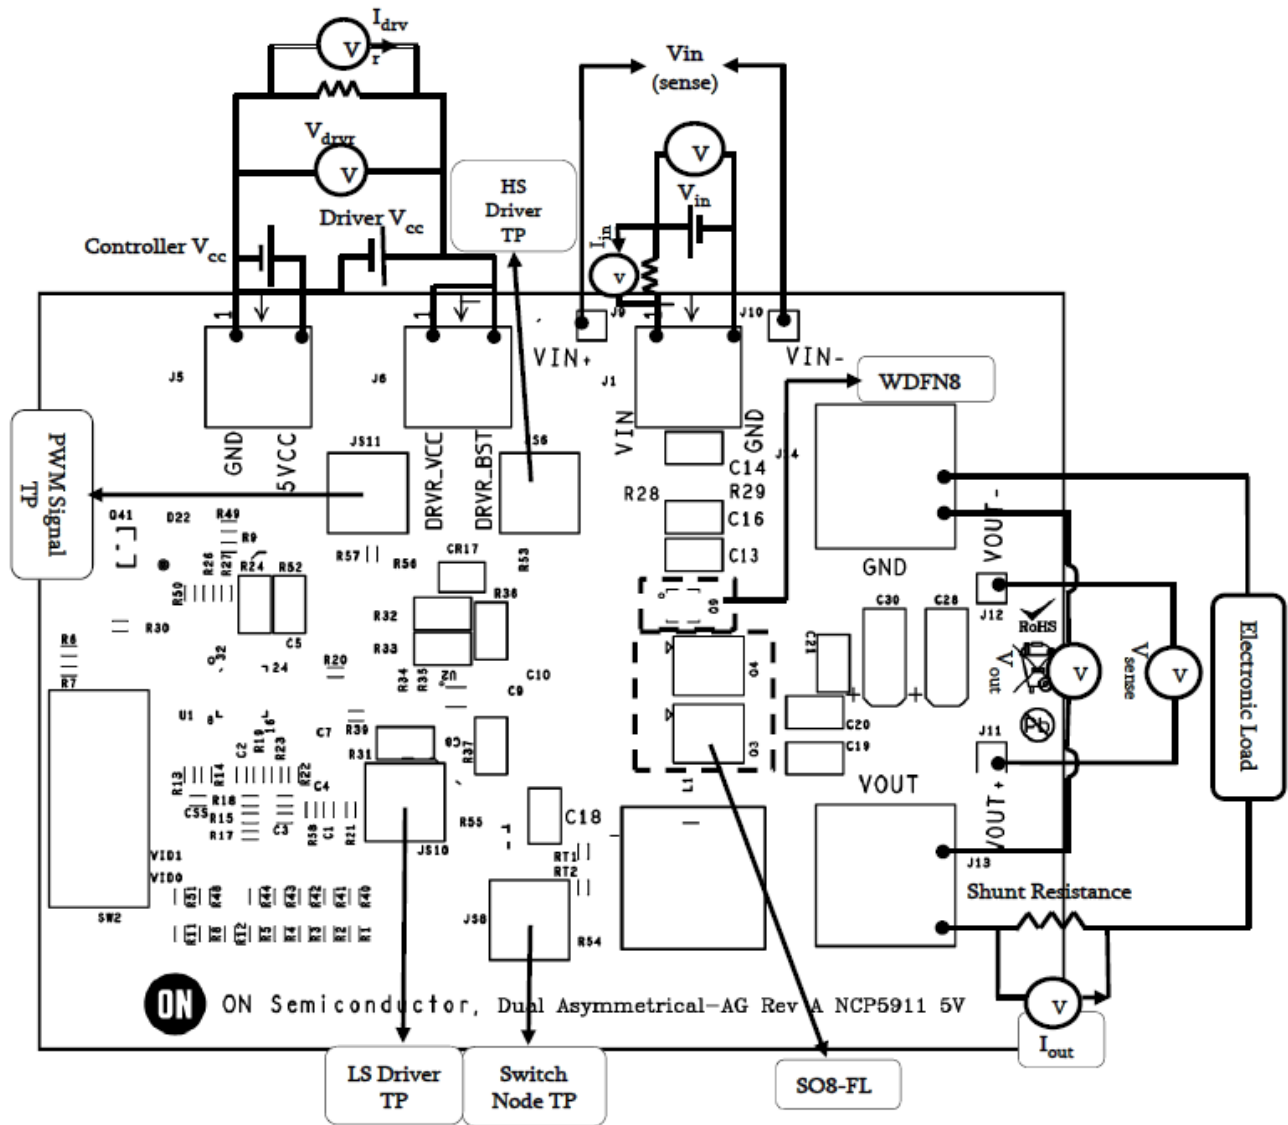

Figure 3: Schematic of the Test Setup
In the DUALASYMA5VGEVB Evaluation Board, the voltages that are to be measured are V_{in} , V_{out} and V_{drv} . Similarly, the currents that are to be measured are I_{in} , I_{out} and I_{drv} . The set up for measuring these voltages and currents, and the meters required are shown in *Figure 3*. The currents are measured across the shunt resistances that are connected across each of the terminals of input, output and driver voltages as shown in *Figure 3*. For example, the output current is measured as, $I_{out} = V_{out} / R_{sh}$. Similarly the input and driver current can also be measured. The connecting wires from the output terminal to the electronic load should be thicker in order to avoid losses and to measure the exact voltage at the end of the terminals.
The test set up, test points and components present on the DUALASYMA5VGEVB Evaluation Board are shown in Figure 3.
- (1) Before making any connections, make sure to set the power supplies for input voltage, controller and the driver voltage at 0V. Also make sure that the load current is at 0A.
- (2) Connect the Oscilloscope probes at the desired test points.
- (3) Set the controller voltage to 5V.
- (4) Set the driver voltage to the required value (For example, $V_{drv} = 5V$).
- (5) After reaching the required driver voltage, set the input voltage as required. (For example, $V_{in} = 12V$).
- (6) Set the load current slowly to the desired value. For example, $I_{out} = 2.5A$. (Refer to *Start Up Procedure #5*).
- (7) The frequency is already set to 330 kHz. If a different switching frequency is required, R13 and R14 have to be changed as per the data sheet of NCP5386. (Refer to *Appendix*).
- (8) Connect the voltmeters/multi-meters to monitor the required parameters. (Refer to *Figure 3*).
- (9) Obtain the required data and waveforms.